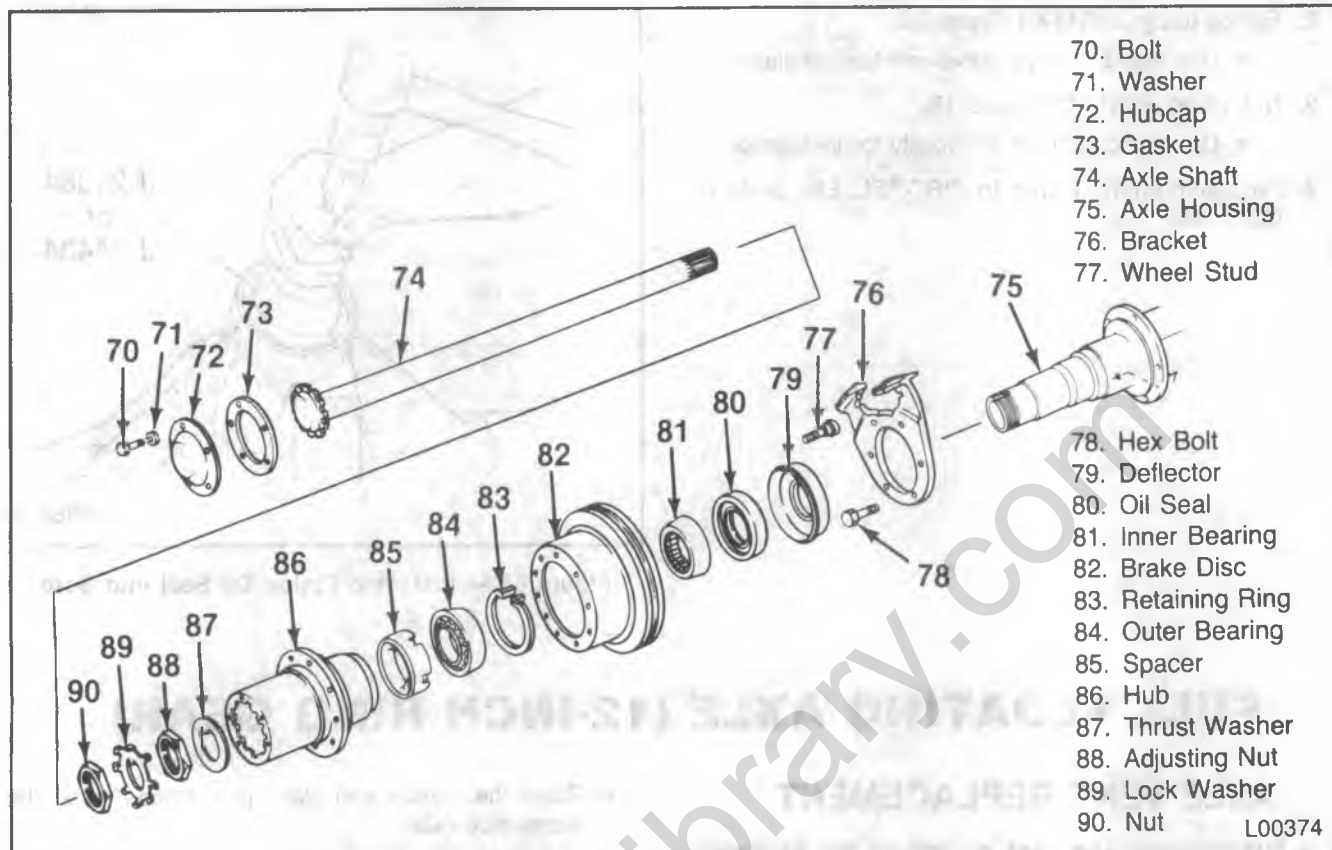
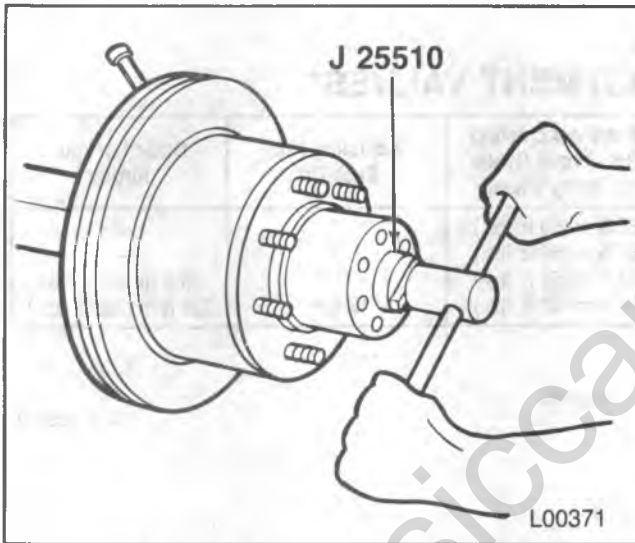

Figure 34 — Rockwell 12-Inch Ring Gear Axle and Hub Components
Figure 36 — Removing Wheel Bearing Nut
Remove or Disconnect (Figures 34 and 35)
Install or Connect (Figures 34 and 35)
Remove or Disconnect (Figures 34 and 36)
1. Axle shaft (74). Refer to "Axle Shaft Replacement" in this section.
2. Nut (90) using J 25510 (figure 36).
3. Lock washer (89).
- Nut (88) using J 25510. Tighten the nut (88) to 68 N·m (50 ft. lbs.) while the hub is rotating. Make sure the bearing surfaces are in contact and then back the nut (88) off 1/8 turn.
**Install or Connect (Figures 34 and 36)**
1. Lock washer (89).
- Bend a tang over a flat of the adjusting nut (88).
- Nut (90) to 339 N·m (250 ft. lbs.).
- Bend a long tang of the lock washer (89) over a flat of the nut (90).
3. Axle shaft (74). Refer to "Axle Shaft Replacement" in this section.